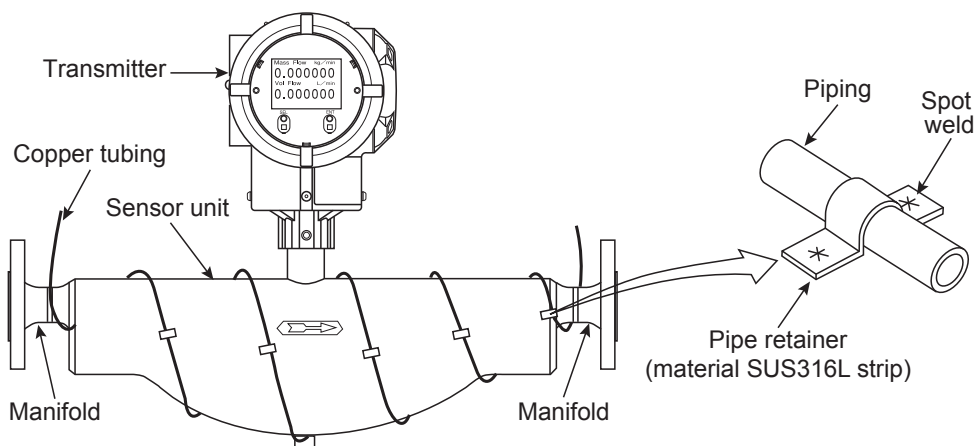

Figure 5.20—Heat and cold retention via copper tubing and pipe retainers (PRO Series meters)
- If you plan to spirally wind copper tubing or similar around the sensor unit, secure the copper tubing with pipe retainers shown in Figures Figure 5.17, page 48 through Figure 5.20, page 49 and spot weld the copper tubing to the sensor unit.